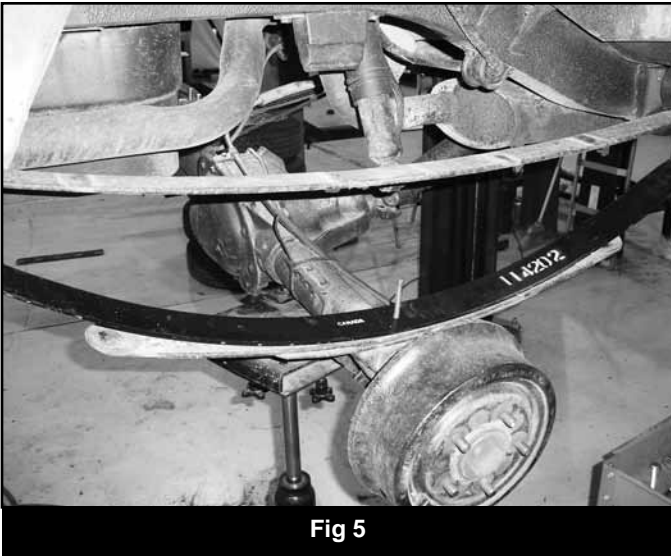

Fig 5
34. Place the provided new leaf (114202R) in between the 2nd and 3rd leaf in the factory leaf pack. The leaf lengths get shorter as they go from the top leaf in a pyramid shape (Figure 5). Using the C-clamps on each side of the center pin hole, compress the leafs together while aligning the new center pin through all of leaf center pin holes (from the bottom up). With the pack completely compressed together with the clamps, fasten the center pin with the provided nut. Torque nut to 20 ft-lbs. Cut off any excess center pin. Do not use the center pin to compress the pack together.